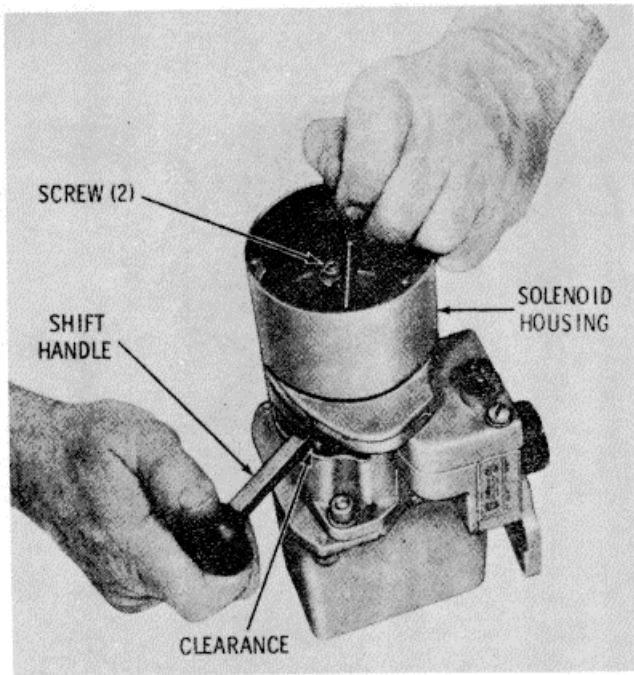

Figure 15-113. Checking Solenoid Housing Angular Adjustment
27. Check the angular position of the solenoid housing (Figure 15-113). Push the spring seat downward. While holding the seat downward, push the shift handle, in the upshift direction against a gate pin and then in the opposite direction. The inhibitor clutch should engage, but should allow the shift handle to move away from the gauge pin contacted a maximum of 0.060 inch (1.52 mm) and a minimum of 0.040 inch (1.01 mm) when pull force on the handle knob does not exceed 15 lb (67 N). This 0.060 inch (1.52 mm) maximum movement applies to the gate pin where the least movement is found when all positions are checked. As a result of tolerances in manufacturing, clearance at some gate pins can exceed 0.060 inch (1.52 mm) when the clearance is correctly adjusted at the position where least movement occurs. Check the movement at all gate pins.